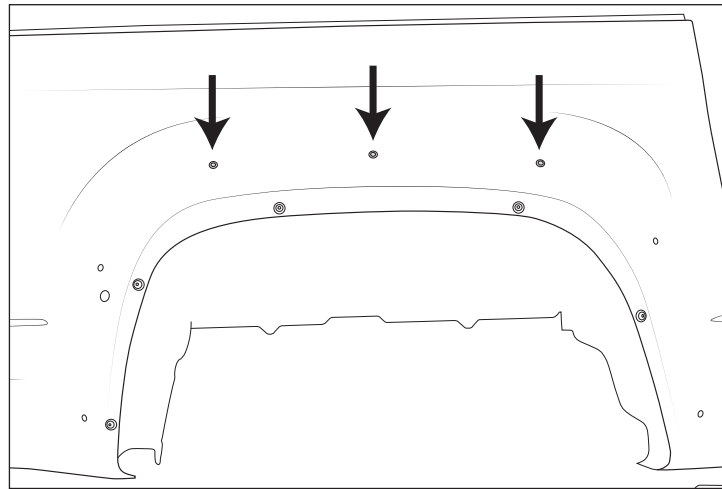

Figure 21
8. Install supplied riv-nuts into the three 13/32" holes on each bedside (fig. 21)